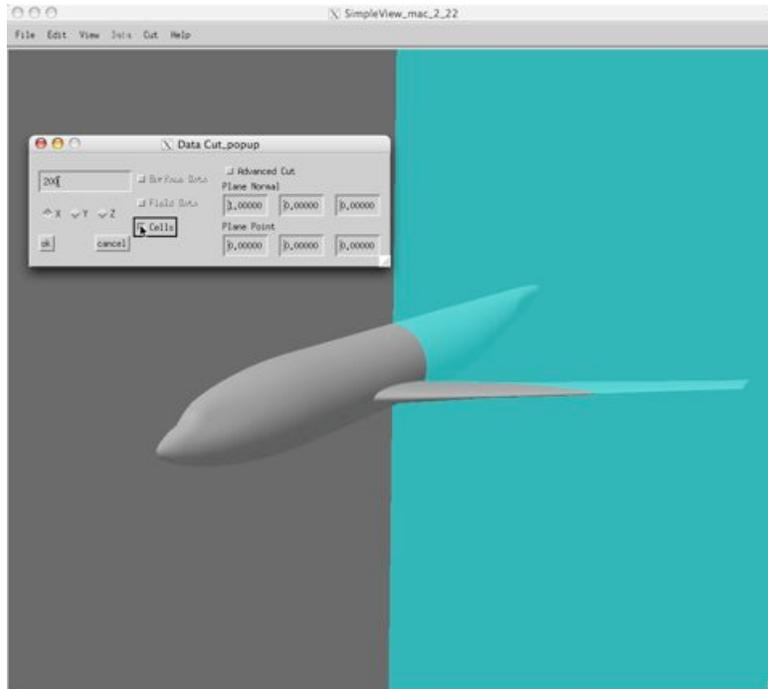

Figure 2.5.2 The Data Cut Pop-up Menu : selecting the “Cells” option from the Data Cut dialog
4. Click on the “Cells” selection box to indicate that you want **SimpleView** to find the cells crossing the specified plane, as shown in Figure 2.5.2.